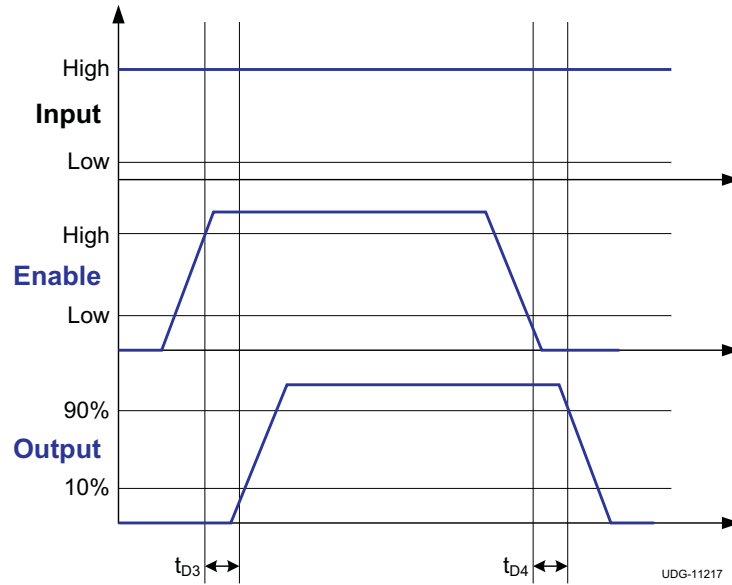

Figure 3. Enable and Disable Function (non-inverting configuration, UCC27519)
(1) Ensured by Design.
(2) ROH represents on-resistance of P-Channel MOSFET in pull-up structure of the UCC27518 and UCC27519's output stage.
(3) See timing diagrams in Figure 1, Figure 2, Figure 3 and Figure 4.